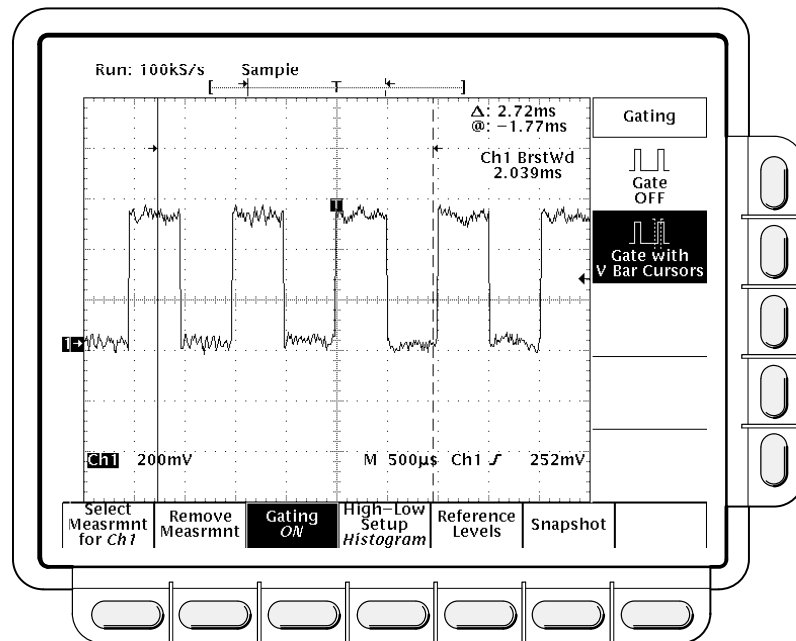

Figure 3-47: Measure Menu — Gating
1. Press **MEASURE** → **Gating** (main) → **Gate with V Bar Cursors** (side) (see Figure 3-47).